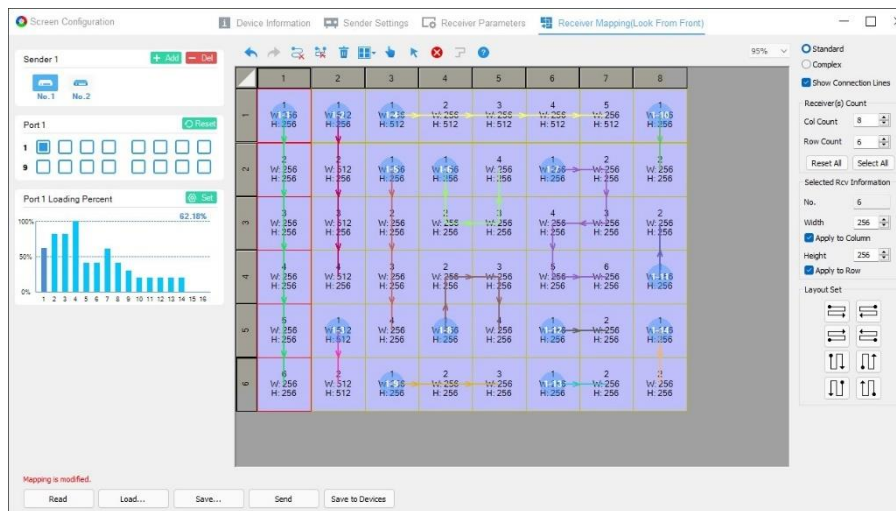

Fig 2.4.1 Cabinet mapping settings
Step 3: Select the corresponding Ethernet port and set the cabinet mapping according to the number of cabinets and the physical connections under each Ethernet port, as shown in Figure 2.4.1.